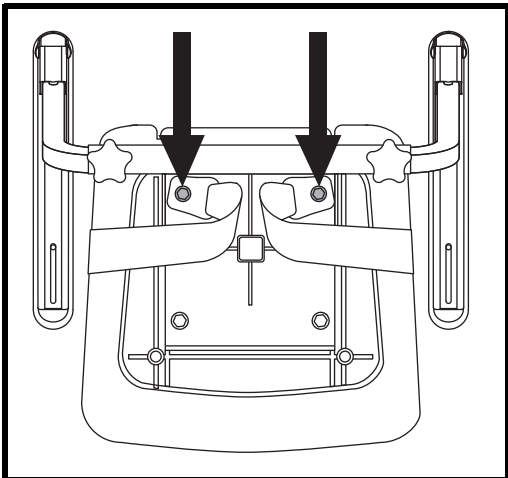

Figure 13. Positioning Belt Bolts
2. Place the seat upside down so that you can see the bottom of the seat base. See **figure 13**.